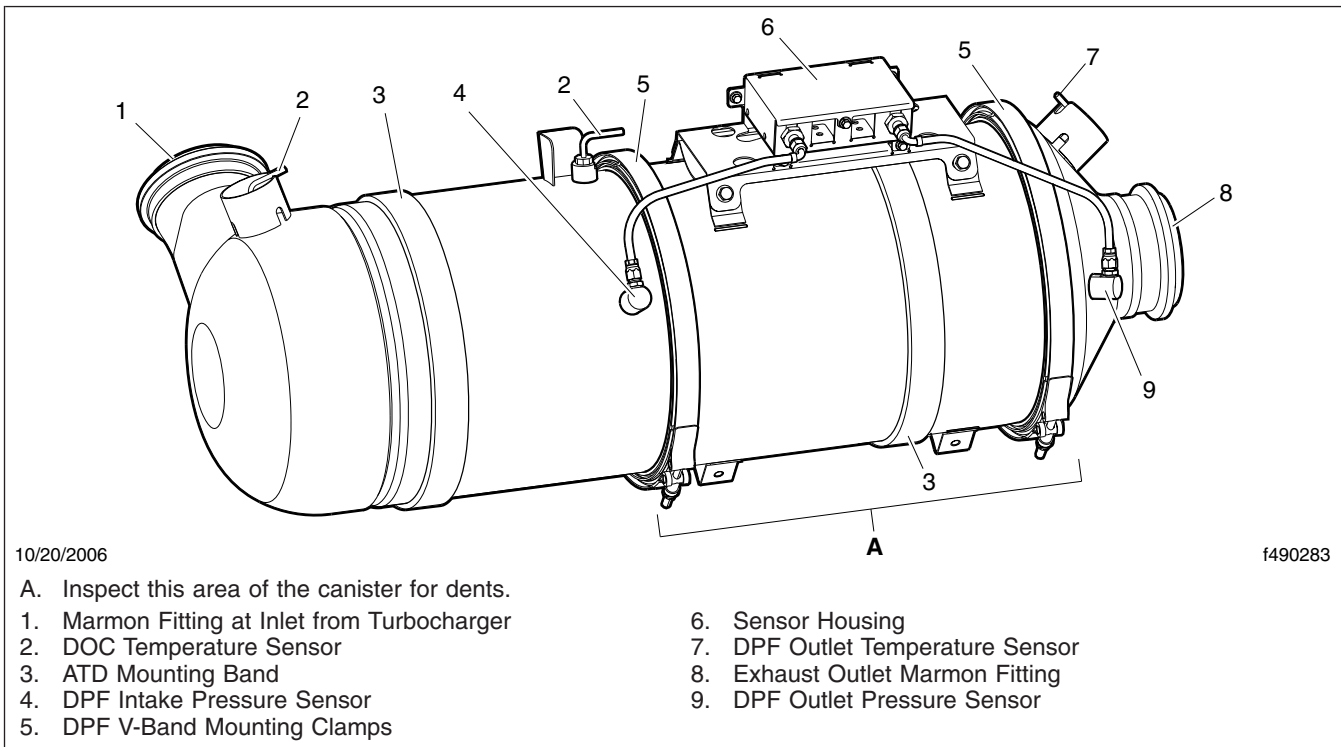

Fig. 4, Typical EPA07 Aftertreatment Device
IMPORTANT: The aftertreatment device (ATD), which is part of the aftertreatment system (ATS), requires special attention during regularly scheduled maintenance inspections; see Fig. 4. No leaks are allowed anywhere in the system. If any discrepancies are discovered, refer to the
8. Check the DPF exterior surface for dents or other damage. See Item A of Fig. 4. A dent over 3 inches (76 mm) in diameter and 1/4-inch (6-mm) deep could cause internal damage to the DPF, causing it to malfunction.